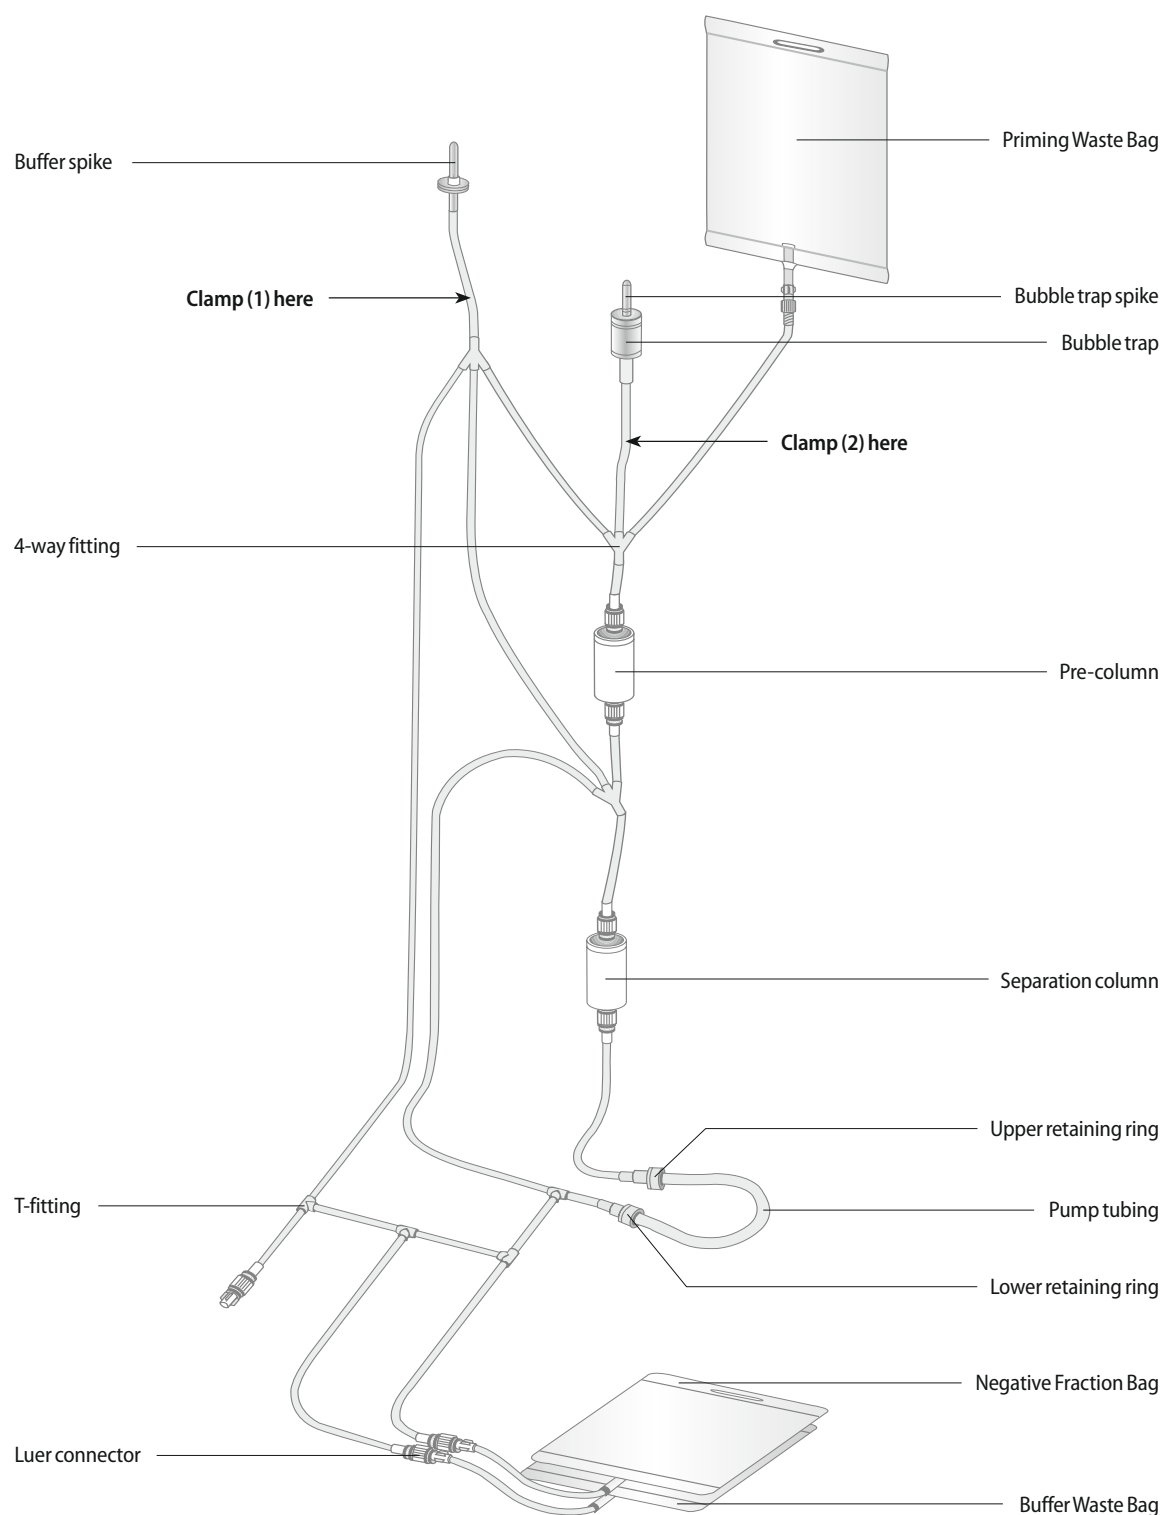

Figure 4.3-10: General construction of a CliniMACS Tubing Set (e.g. CliniMACS Tubing Set, REF 161-01)
Clamp the tubing just below the buffer spike with a locking forceps in order to prevent the buffer from flowing into the tubing set during its installation (see (1), Figure 4-3.10). Using aseptic techniques remove the cap from the buffer spike on the tubing set and connect it to the buffer bag. Ensure that the septum is punctured, allowing free flow of liquid. Gently squeeze the bag to ascertain that the spike has penetrated the bag.
Remove the cap from the spike of the bubble trap. Remove the cap from the lower opening of the pre-system filter. Firmly insert the spike into the pre-system filter. DO NOT remove the top cap of the pre-system filter. Close the tubing just below the bubble trap using a locking forceps (see (2), Figure 4-3.10). This prevents the prepared cell suspension in the Cell Preparation Bag from entering the pre-system filter.